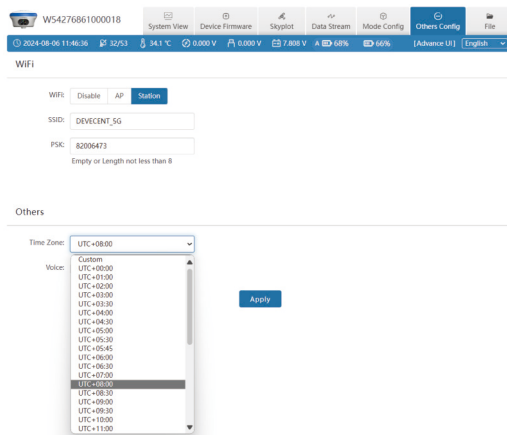

Figure 2.6-1
① WIFI: You can choose from three types: Disable/AP/Station, and you can set the WIFI name and password by yourself. When the device WIFI is used as the Station, you can access the network by entering the name and password of the external hotspot.
② Others: You can select the device's UTC time and set it according to your region. The interface is shown in Figure 2.6-1: